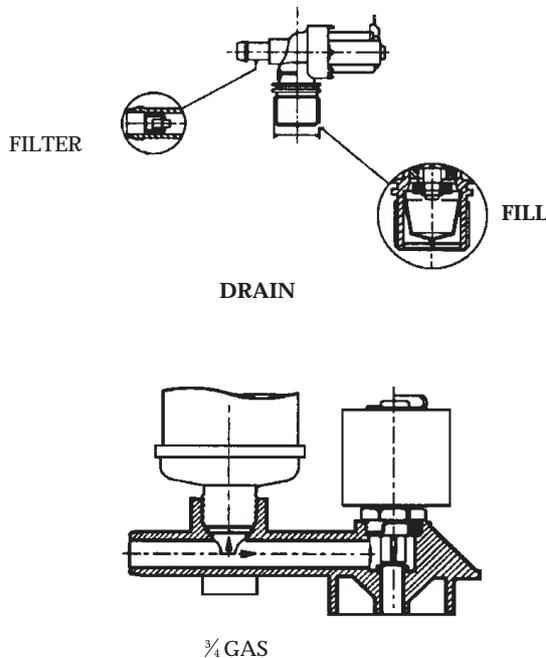

Figure 13- Fill and drain groups
- Dismantle the drain group (Figure 13). Clean conduits and nozzles and remove any solids from the base of the siphon.